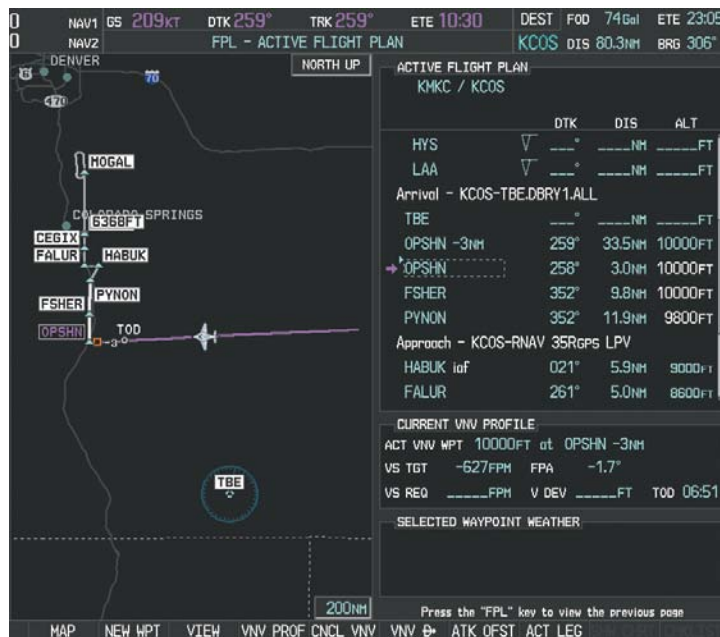

Figure 5-131 Adjusting the Descent
- Press the **VNV PROF** Softkey to place the cursor in the target vertical speed field (VS TGT) as shown in Figure 5-131.